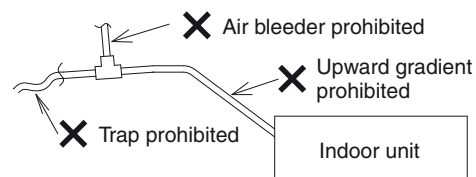

Fig. 3-7
(2) Limitations of Drain Pipe Connection
- Do not install the drain pipe with an upward gradient from the drain port connection. This will cause the drain water to flow backward and leak when the unit is not operating. (Fig. 3-7)
- Do not install an air bleeder as this may cause water to spray from the drain pipe outlet. (Fig. 3-7)
- Do not provide U-trap or bell-shaped trap in the middle of the drain pipe. Doing so will cause abnormal sound. (Fig. 3-7)